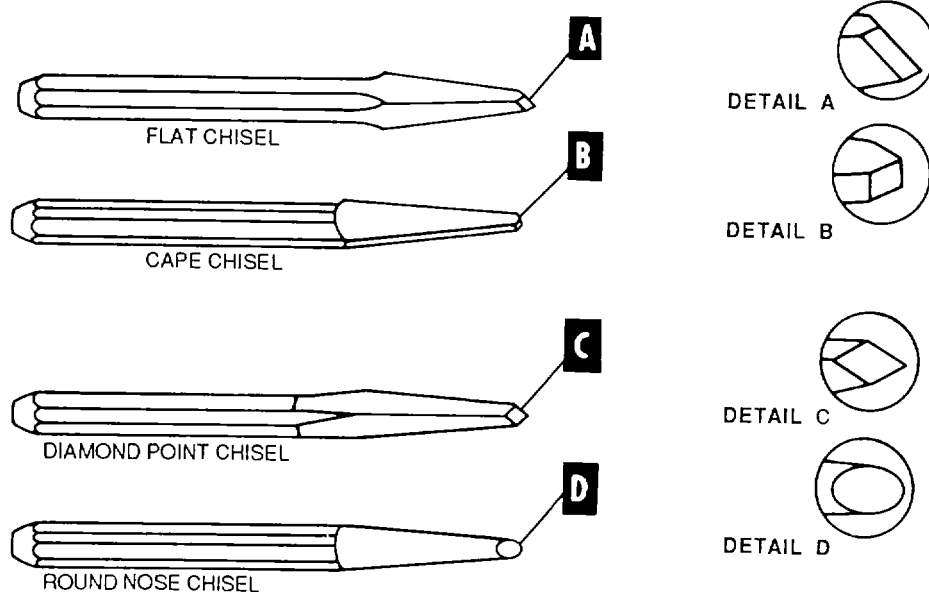

Figure 4-57. Chisels
- a. *Types.* The most common types of cold chisel are the flat, cape, roundnose, and diamond types, shown in figure 4-57.
- (1) *Flat chisel.* The flat chisel is used to split nuts, chip castings, and cut rivets and thin metal sheets.
- (2) *Cape chisel.* The cape chisel is used for special jobs like cutting keyways, narrow grooves, and square corners.